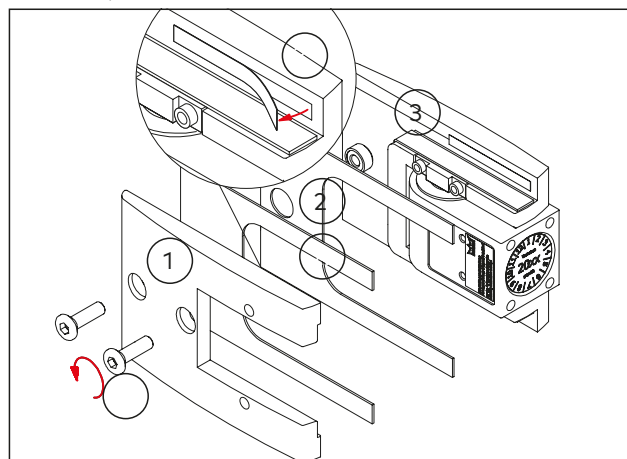

Fig. 48 Preparing the double action hinge
1. Disassemble the counter plate (Fig. 48/1).
2. Select the appropriate gaskets (Fig. 48/2) according to the glass thickness (see Table in Chapter 4).
3. Peel off the protection film of the adhesive tape on the base and counter plate (Fig. 48/1 and Fig. 48/3).